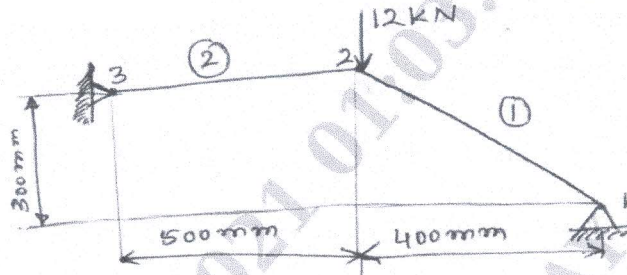

Fig. Q6 (a)
- 6 a. For the two bar truss shown in Fig. Q6 (a), determine the nodal displacement, stresses in each element and support reactions. Take  $E = 200 \text{ GPa}$ ,  $A_1 = A_2 = 200 \text{ mm}^2$  (12 Marks)